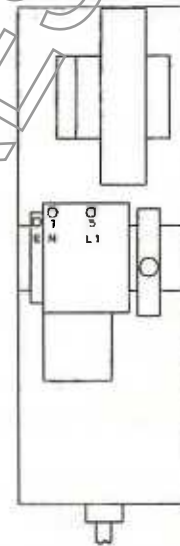

Fig 5
The machine is fitted with 2m of electrical cable and a 3 pin plug fitted with a 13 A fuse. If the machine is to be permanently fitted to the electrical supply it must be connected to an electrical isolator and be protected by a fuse or earth leakage circuit breaker. Connection of the electrical supply to the machine is made as follows. Remove the screw retaining the electrical control housing. Remove the housing cover by removing the retaining screws. Pass the supply lead through the cable gland located on the lower end of the housing. Connect the live (brown) lead to terminal L1 on the isolator. Connect the neutral (blue) wire to terminal N. Connect the protective earth lead (yellow/green) to the earth terminal (E) (see fig 5). The use of 1.5mm² cable and fuses rated at 15 A is recommended.